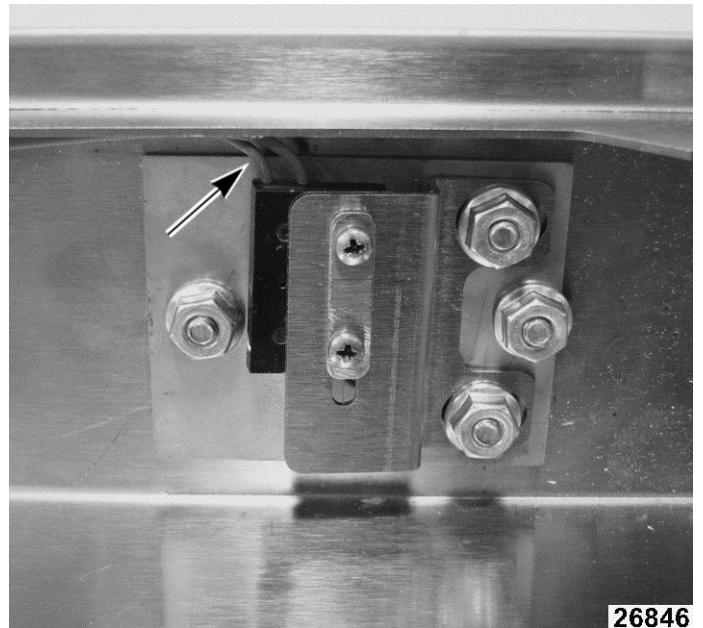

Fig. 132
- D. Verify wire location as shown in Fig. 132.